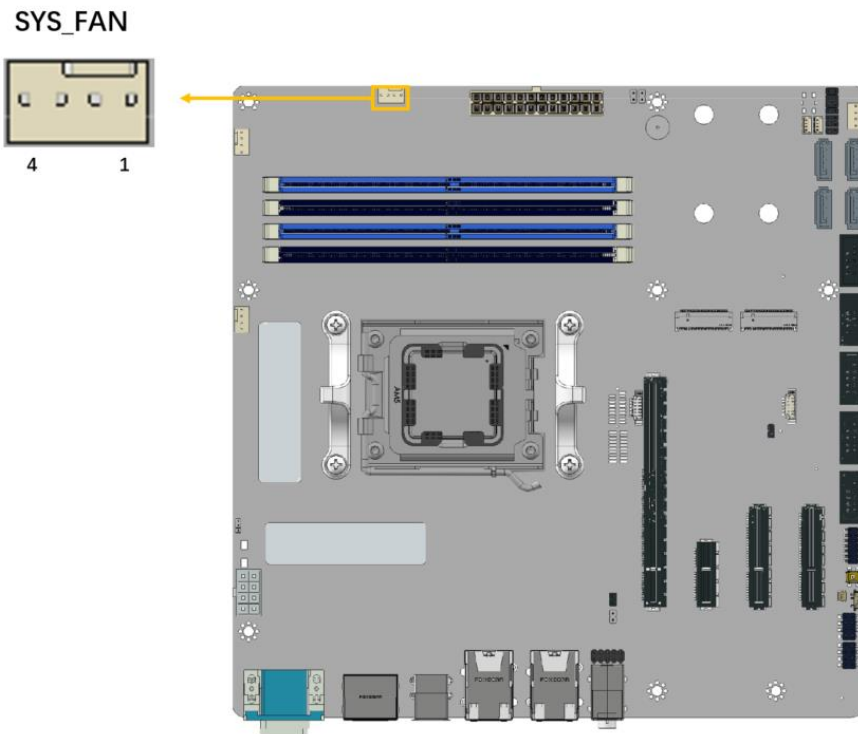

Figure 4-8: System Fan Connector Locations
- CN Location:** See **Figure 4-8**